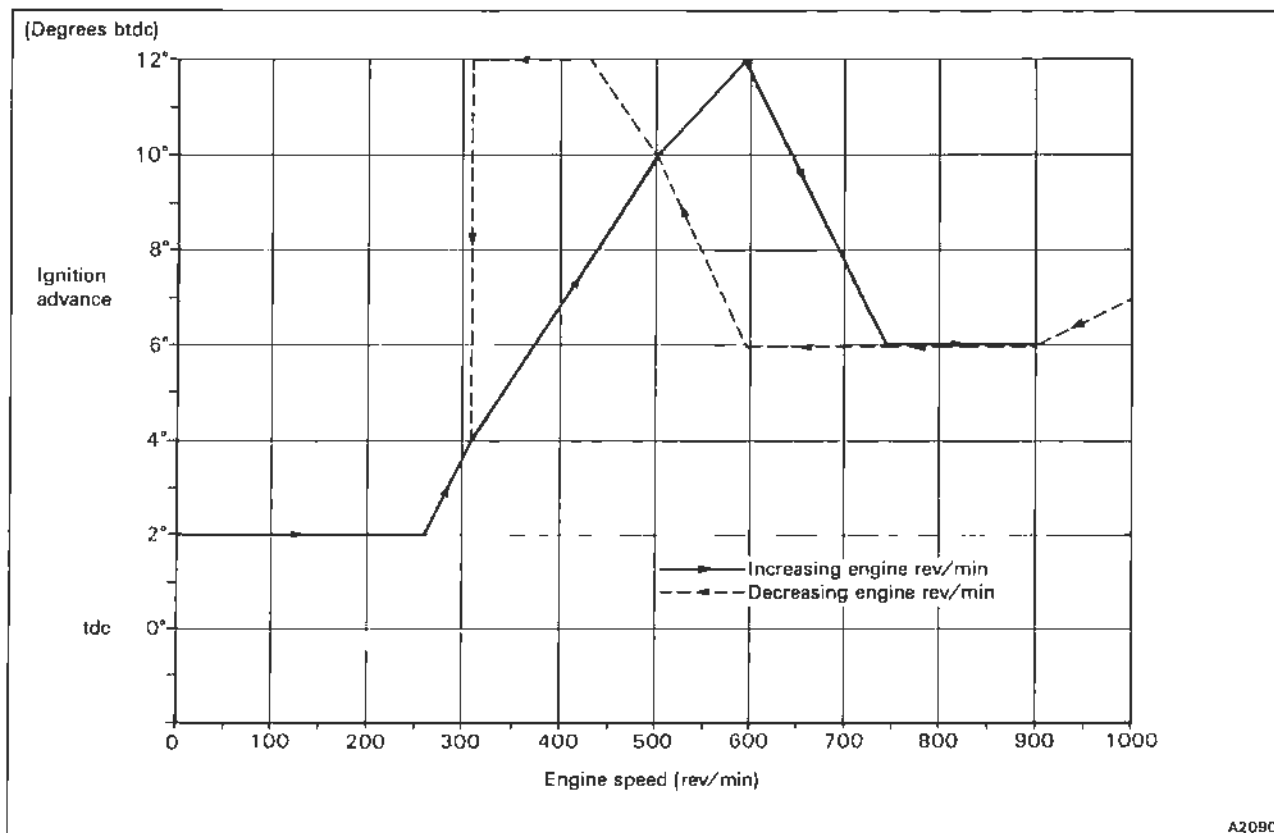

Fig. E6-7 Cranking and low rev/min stabilization map
15. For more detailed information concerning the EZ 58F electronic control unit ignition maps refer to figures E6-7 to E6-10 inclusive.